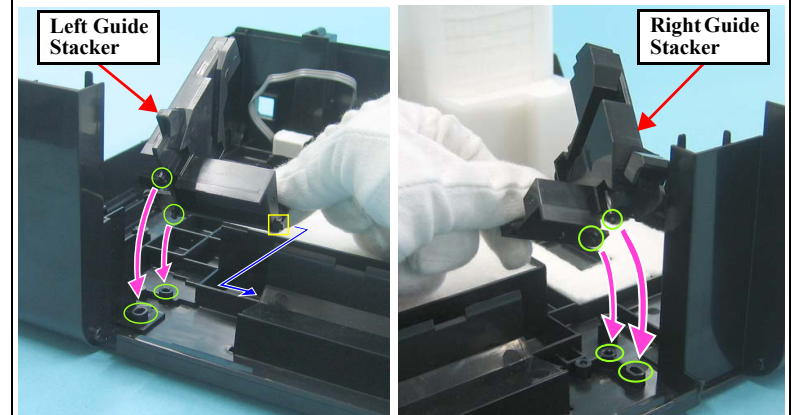

Figure 1-67. Installing the Left / Right Guide Stacker
- When installing the Left Guide Stacker, insert the rib indicated with □ in Fig.1-67 and match the positioning holes and guide pins indicated with ○ (two pairs).
- When installing the Right Guide Stacker, match the positioning holes and guide pins indicated with ○ (two pairs) in Fig.1-67.